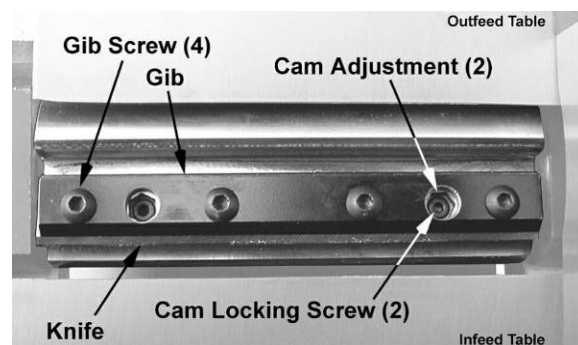

Figure 25
8. Using an 8mm hex wrench, adjust the cam (see Figure 25). This is a very sensitive adjustment. Start by rotating the cam in a clockwise direction just a few degrees.